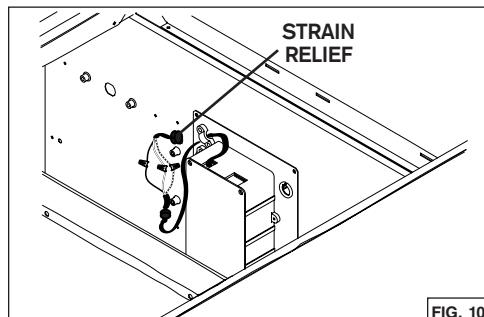

FIG. 10
3. Connect external blower cable using included wire connectors. Connect BLACK to BLACK, WHITE to WHITE and GREEN or BARE WIRE to GREEN. DO NOT FORGET TO CONNECT THE GROUND. See FIG. 10.